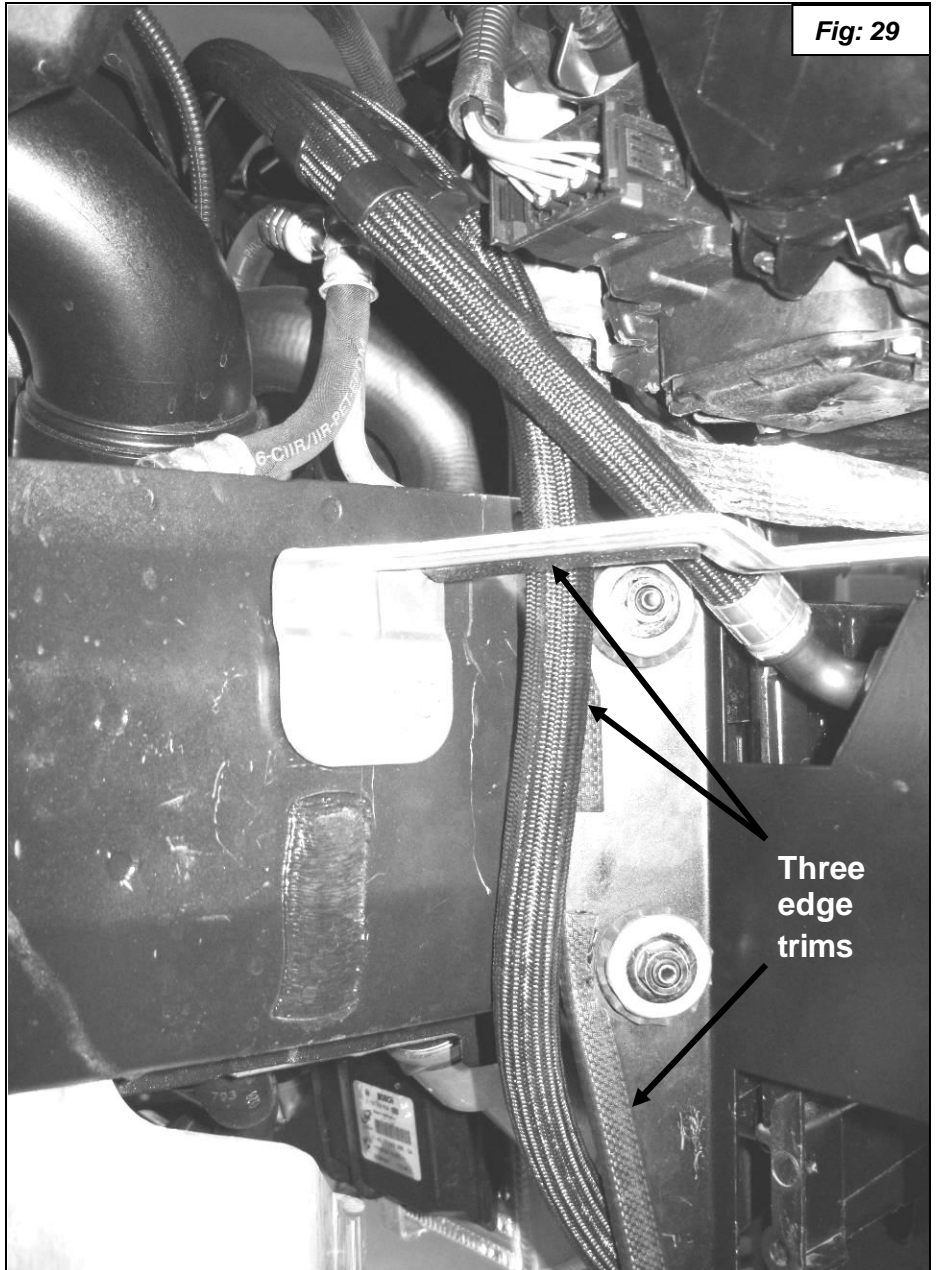

Fig: 29
32. Refer to **figure 29** to see where to install three pieces of edge trim to protect the oil lines where they would otherwise rub on sharp edges. Proceed to the next step before mounting the Cooler Assy.
33. Route the oil line as shown in **figure 29**. Attach the Oil Cooler Assembly to the car as shown previously with the two stock 8mm nuts and the 6mm bolt. Torque nuts to 20Nm (15ft-lbs.) and bolt to 8Nm (6ft-lbs.).